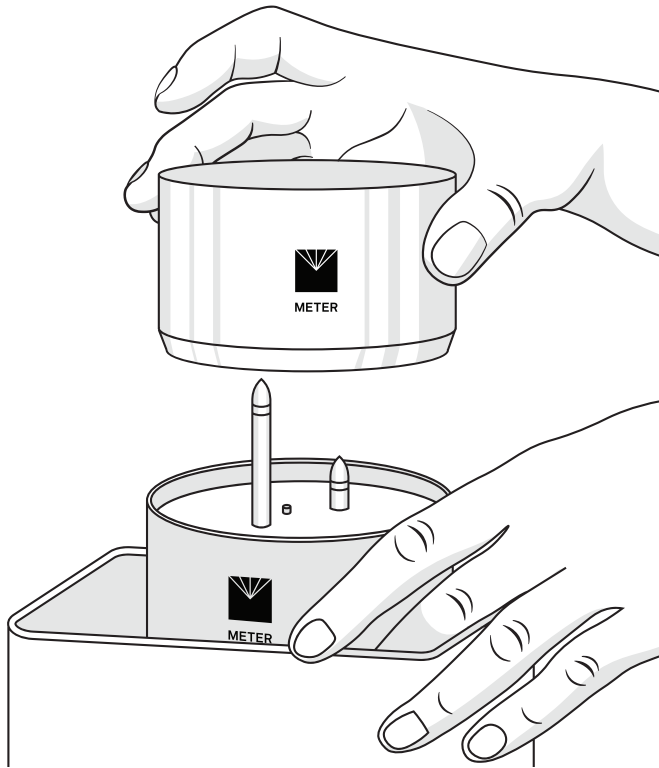

Figure 99 Remove the sample ring
2. After stopping the HYPROP measurement, remove the sampling ring (including the soil core) from the HYPROP device (Figure 99).